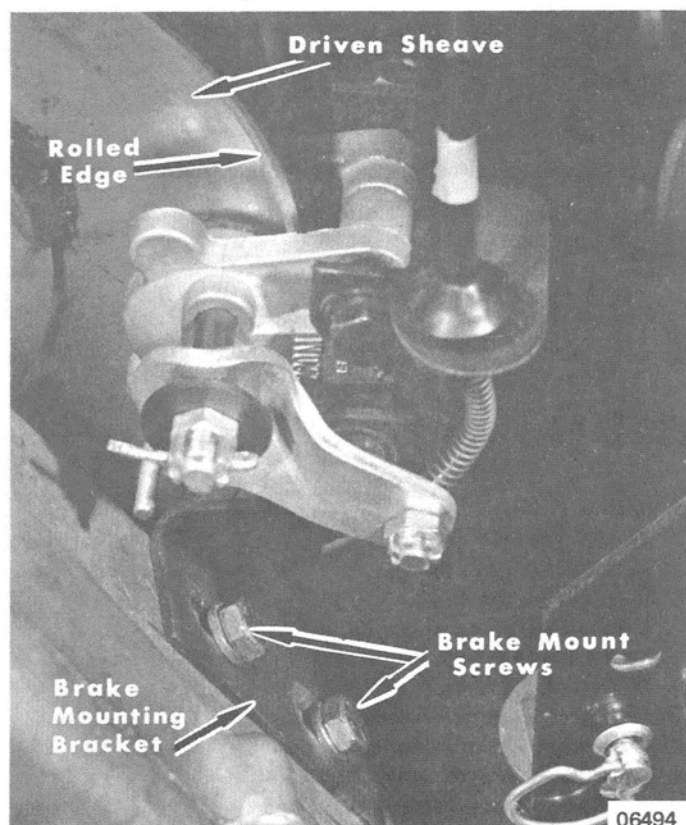

Figure 6. Adjusting Brake Mounting Bracket
8. Adjust brake mounting bracket so that brake disc contacts flat surface of driven sheave and not the rolled edge. (Figure 6)